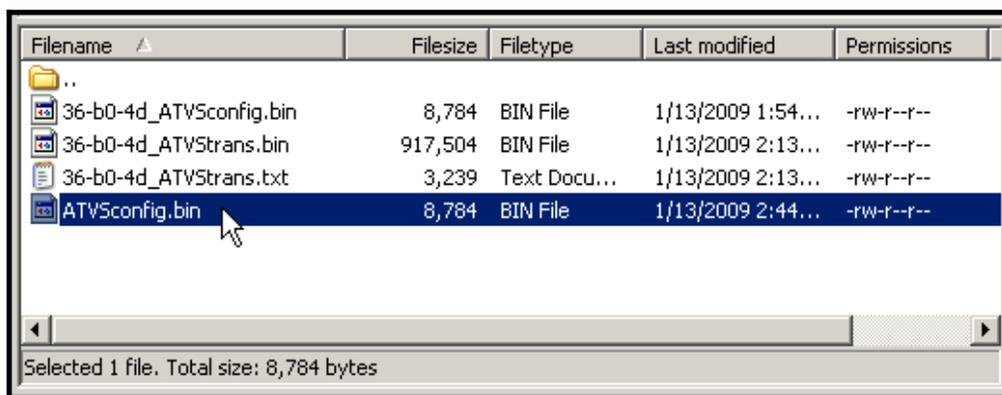

Figure 4-25: FTP Server Configuration & Transaction Files
At the same time a Backup transaction text file is created, a Backup transaction binary file is also created. This binary file can be used by the Restore utility to restore the transaction database in a clock. This should only be necessary if the clock’s flash memory was reset. The following figure shows a Backup configuration and transaction file for the same clock on an FTP Server. In the illustration, the first file labeled “36-b0-4d_ATVSTrans.txt” is the configuration file for that clock. The highlighted file (see *Figure 4-25*) called “ATVSTrans.txt” is the shared configuration file for multiple clocks. This file can be used by the included TS-3000i Utility on the CD to copy this configuration to multiple clocks.
- Step 3.** Select the radio button for “**Are you are restoring this clock based on shared settings or is it specific to this clock only?** The choices are: **Specific**, or **Shared**. Select Specific if you are restoring only the clock you are connected to. Select Shared if you are using the shared settings file (possibly a different clock) to transfer to this clock. See *Figure 4-25* for an example of a shared configuration file. The shared file does NOT have the MAC address. It is important to note, that when restoring a clock all the information will be changed except for the clock name. The current name in the clock will remain unchanged so that clock retains this unique identifier.